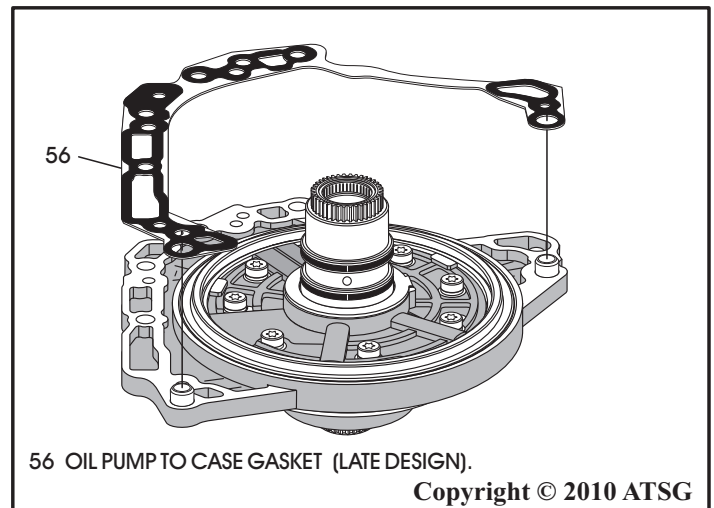

Figure 191
- 55. Install new design pump to case gasket over the dowels on oil pump, as shown in Figure 191, and retain with a small amount of Trans-Jel®.